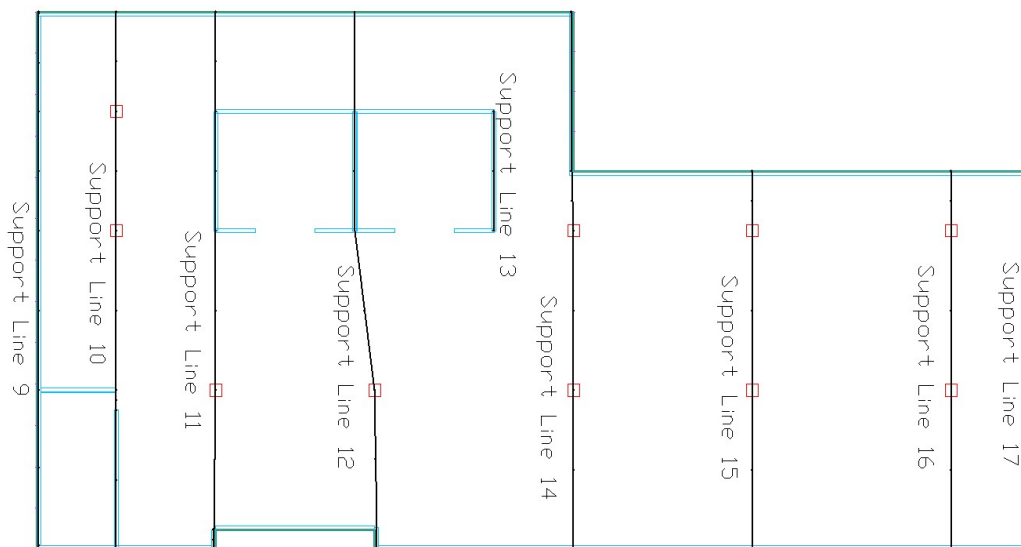

FIGURE 6.7-3 SUPPORT LINES AND SPLITTERS IN Y-DIRECTION
- Using the approach described above for the X-direction, draw support lines in **Y-direction**. **Figure 6.7-3** shows the layout of the Y-direction support lines once they have been entered in the model.